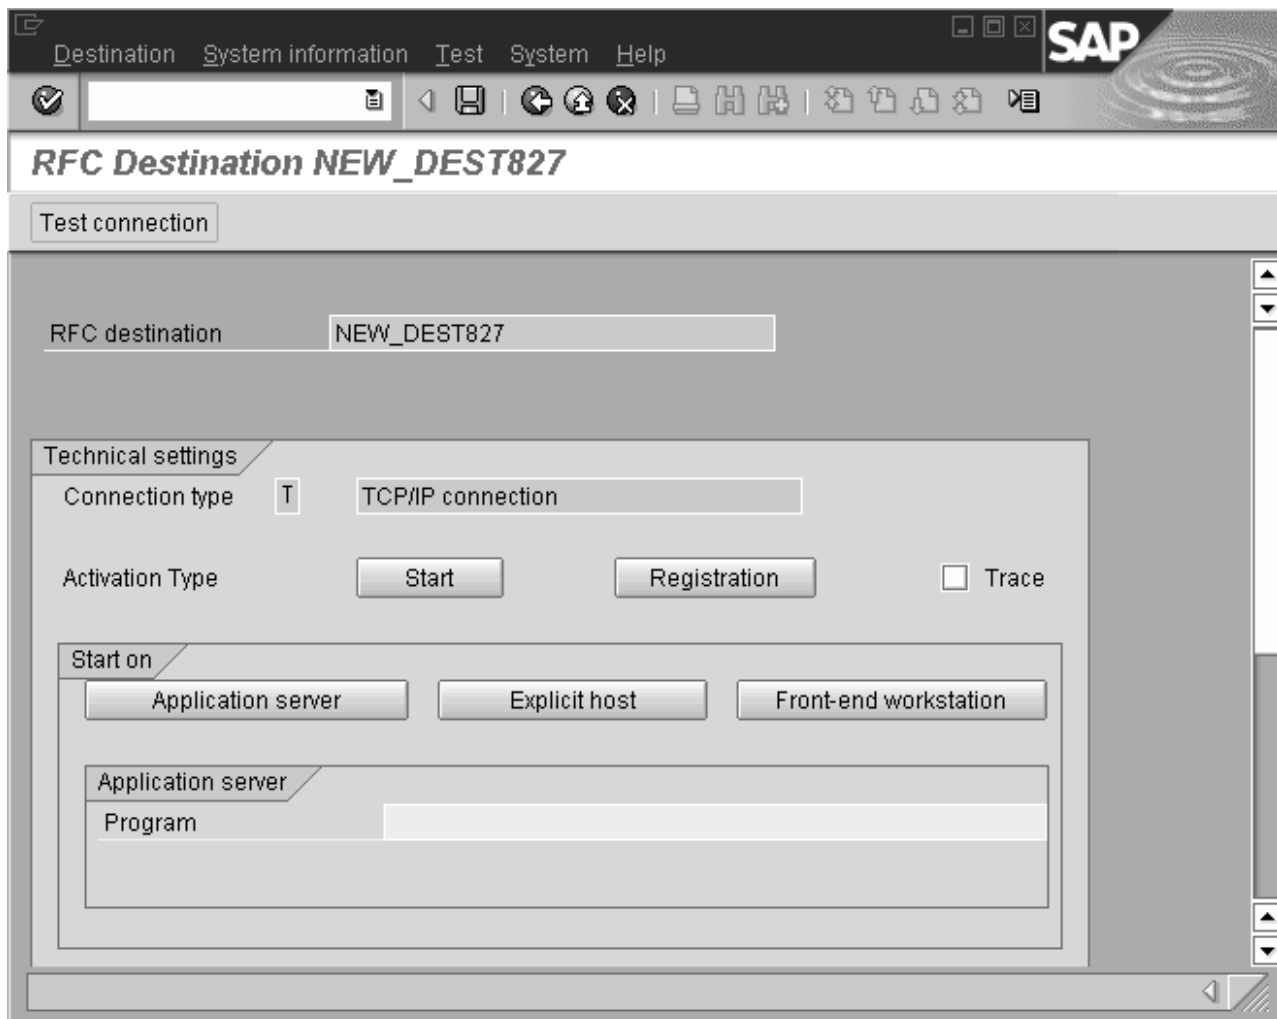

Figure 43. RFC Destination window for registration
- From Figure 43, access the **Activation Type** and press the **Registration** push-button next to **Activation Type**.